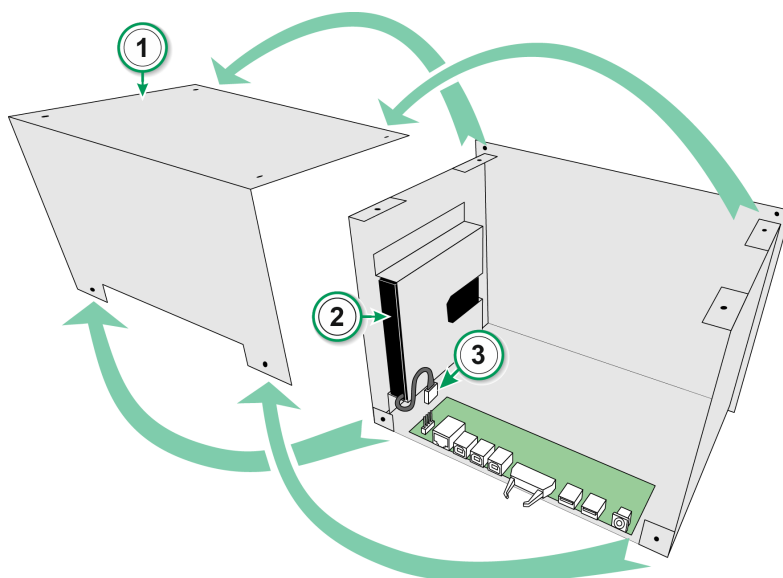

Figure 173: Replacing the battery pack
1. Remove the MC6-WS cover (see callout #1 in Figure 173: Replacing the battery pack) using a Torx T20 screwdriver.
2. The battery pack is located at the rear of the MC6-WS (see callout #2 in Figure 173: Replacing the battery pack).
3. Unplug the battery pack's connection cable (see callout #3 in Figure 173: Replacing the battery pack) and remove the battery pack.